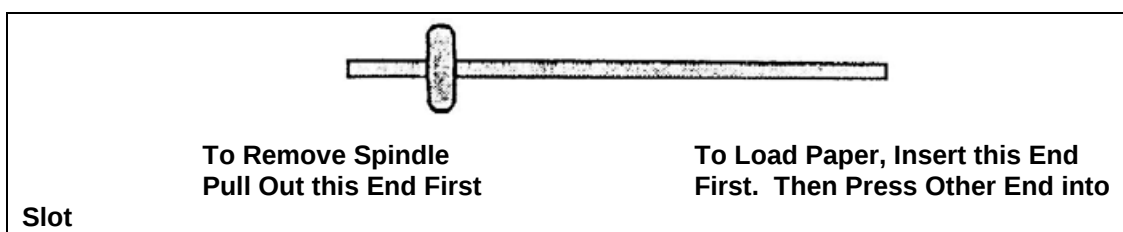

Figure 4-2. Printer Paper Installation
- f. Insert the paper spindle (figure 4-2) through the paper roll from the left side of the printer, with the spindle "Tee" head on the left side. The paper roll should be installed with the paper coming over the top of the roll away from the operator.